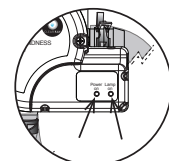

Figure 7
19. Once power is activated you can check the ballast, Figure 7, to see if the CLEARARRAY System is functioning. The power on (red) light indicates that the CLEARARRAY System is being provided power and should always be on. The lamp on (green) light indicates that UV bulb is activated.